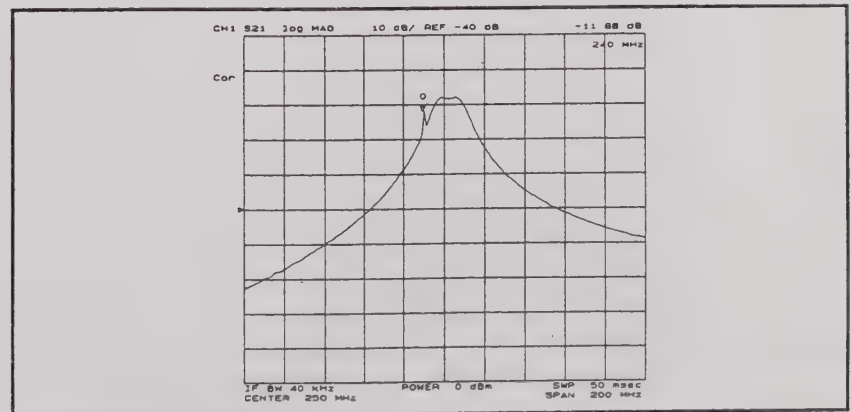

Figure 3-9.
2. Press **[Search]** PEAK to put the marker on an unknown peak of the trace. The transmission measurement result is displayed as shown in Figure 3-9.